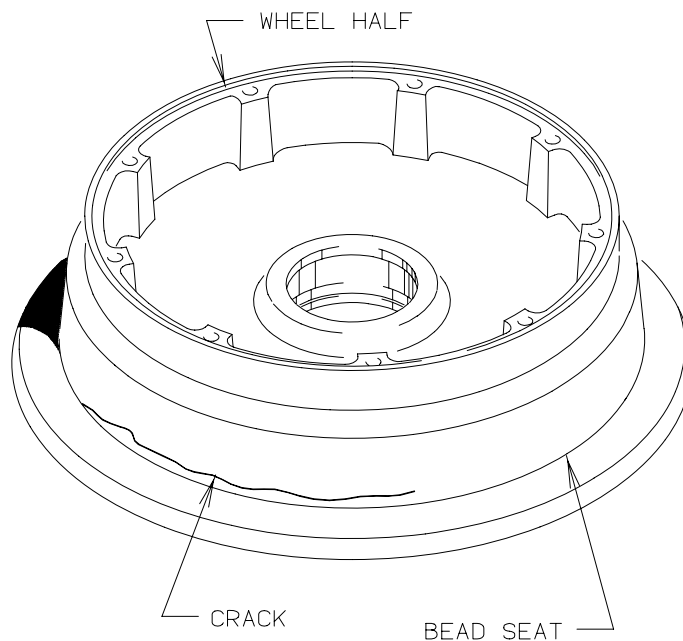

Figure 308 - Bead Seat Inspection
- (1) Visually inspect wheel halves for cracks, nicks, corrosion, or other damage. Any cracks in the wheel half are cause for replacement of wheel half. The tire bead seat area of a wheel (Fig 308) is typically an area of stress concentration and possibly subjected to trauma from tire beads and tools used to remove tires. These combined effects warrant that this area receive special attention when inspecting for defects. All defect indications must be thoroughly investigated to determine part airworthiness. Dye penetrant inspection and visual examination is an effective method to evaluate a defect indication. To facilitate the inspection process it is recommended that the paint be stripped in the area being evaluated.